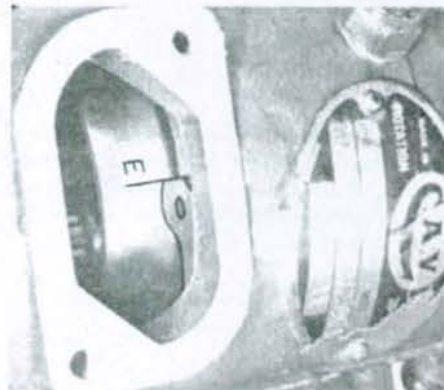

Fig. 95—The "E" timing mark on injection pump rotor should align with square end of snap ring when flywheel timing mark is aligned as shown in Fig. 94.
98. PUMP STATIC TIMING. To check pump timing, shut off fuel at fuel tank. Remove timing window cover (C—Fig. 98) from injection pump and remove engine timing window plug from left side of flywheel housing adapter plate. Turn crankshaft until No. 1 (front) piston is coming up on compression stroke and the correct degree mark for static timing is aligned in flywheel timing window (Fig. 94); 16° BTDC for MF245 and MF250, 24° BTDC for MF230, MF235 and MF240. At this point the "E" mark on injection pump rotor should align with square end of snap ring as shown in Fig. 95.